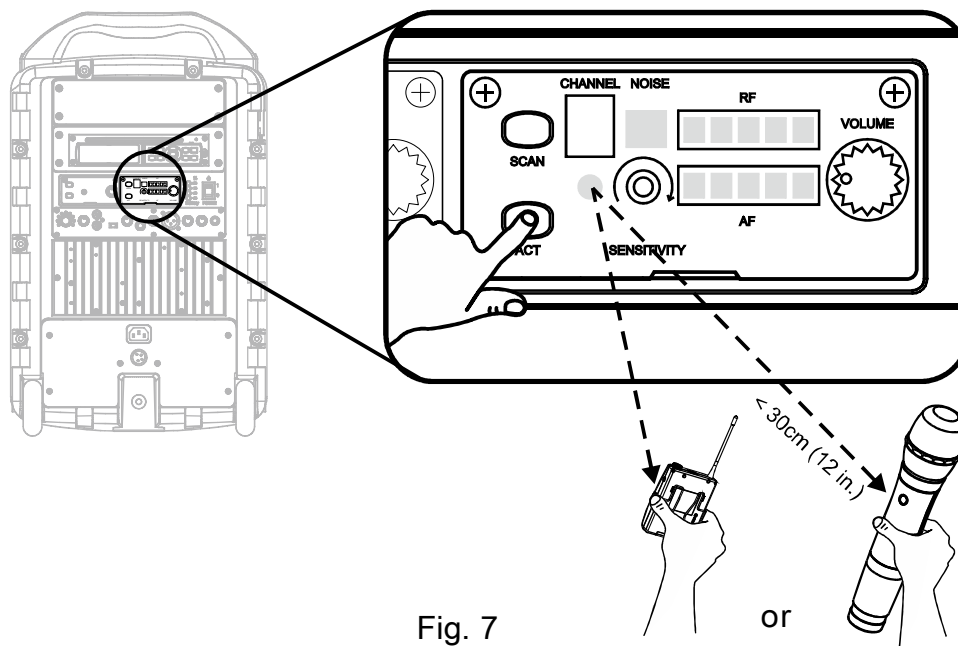

Fig. 7
- (1) Ascertain both receiver and transmitter are powered on. Press ACT button **A5** on receiver to activate IR (infrared) channel synchronization. Existing channel blinks **A7**.
- (2) Align the ACT sync windows of both transmitter and receiver within 30cm of each other for an automated channel synchronization, Fig. 7.
- (3) If ACT channel synchronization is performed successfully, the new channel stops blinking, RF indicators are lit and audio indicators are lit once you speak into the microphone.